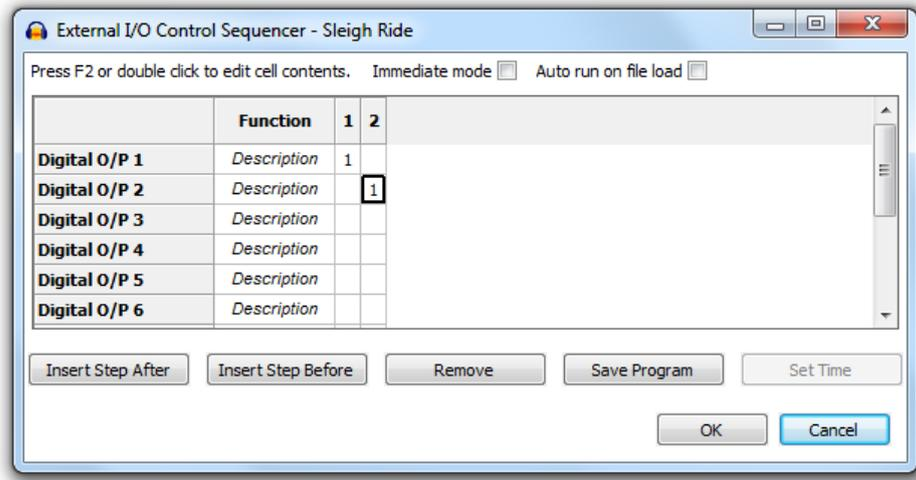

Figure 2-8, External I/O Sequencer Window with two programmed steps
- 8) Now click in the cell on row **Digital O/P 1** and column **1**. Type the number 1 and press <return>. Click on the cell on row **Digital O/P 2** and column **2** and enter the number 1 in this cell too. The resulting program will be as shown in figure 2-8.